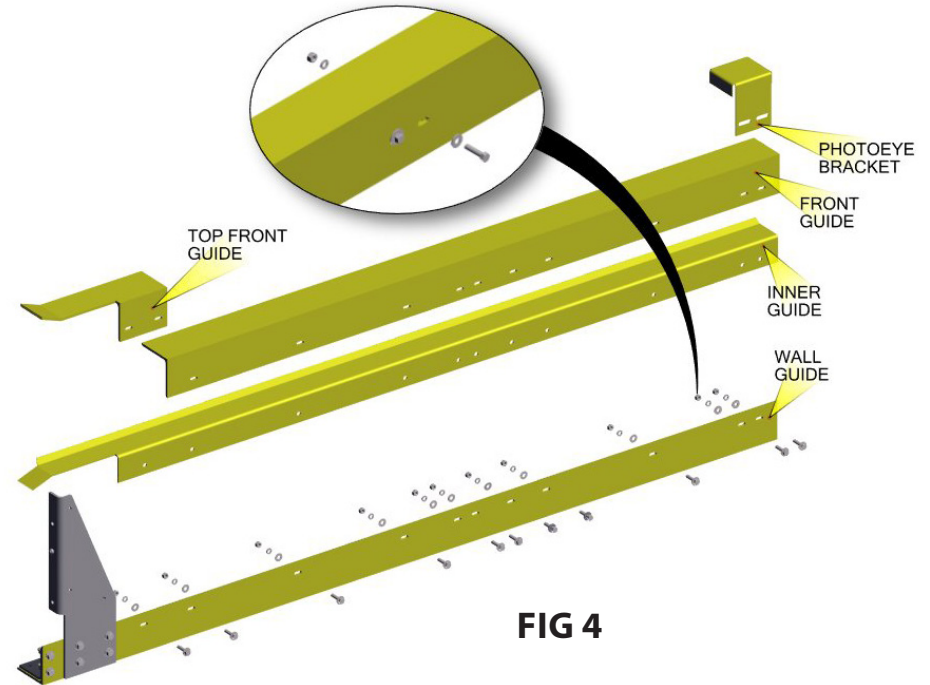

FIG 4
- Remove pre-installed hardware holding the guide assemblies together and disassemble the guide assemblies. See **FIG 4**.